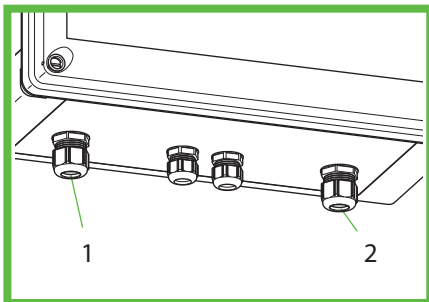

Figure 13: Connections
- ▶ Guide the electric supply line through the cable gland (Abb. 13, Pos. 1).